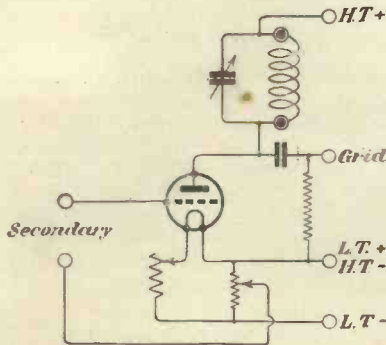
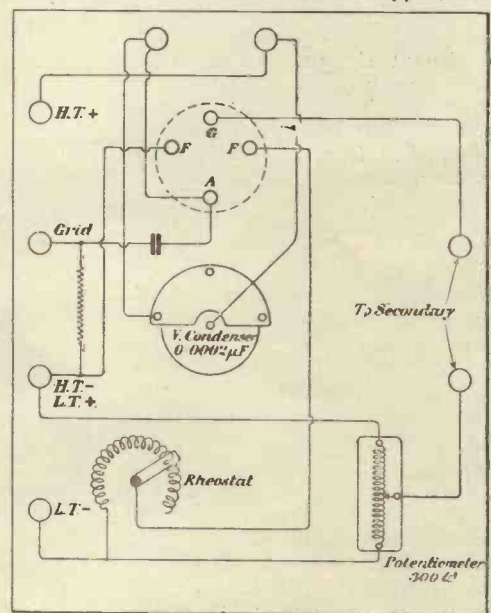
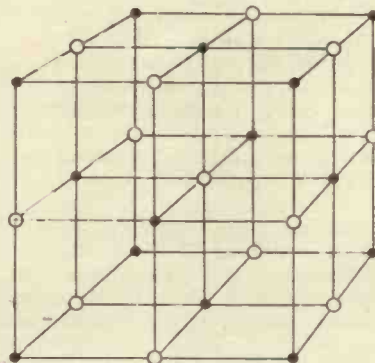

Fig. 3.—The circuit of the unit.
Fig. 4.—Showing back of panel.
Fig. 5.—The unit cube of a crystal of the "cubic" system (sodium chloride). The black dots represent sodium atoms and the circles chlorine atoms.
Fig. 3 shows the circuit, and Fig. 4 gives a wiring diagram of the panel. The panel is first laid out as shown in Fig. 5. A line running down the middle is ruled with the scribe (do not use a lead pencil which makes high-resistance leaks all over the ebonite); then two others 1/8 in. from each of the long sides. Once these guide lines have been made the rest of the process is easy. The positions of the holes
Fig. 3.—The passage of X-rays through humid gas. Electrons are ejected from the gas molecules and produce ionisation trails, which are rendered visible by the condensation of water-vapour upon the ions. (Reproduced from memoir by C. T. R. Wilson.)
when violent disturbances of the electron systems of atoms are produced by the collision of high-speed electrons, so these rays may act upon other atoms, ejecting electrons and disturbing the orbital motions of the inner rings. Thus when a substance is exposed to X-rays two different effects are generally produced: (1) some of the atoms are deprived of planetary electrons—that is to say, they are "ionised" (see Fig. 3); and (2) orbital changes take place, corresponding to those occurring in the atoms of the anti-cathode by which the rays were produced.
indicated in Fig. 4, known as the "X-ray spectrometer."
In certain crystals (called "cubic") the arrangement of the molecules is comparatively simple. In Fig. 5 is shown the arrangement of common salt (sodium chloride), the black dots representing the sodium atoms, and the circles the chlorine atoms. By simple calculations it is possible to discover very accurately the dimensions of the small cubes such as that shown in Fig. 5. These arrangements of atoms in crystals are known as "lattices." In 1914 Moseley investigated the characteristic X-ray frequencies of various substances by means of the crystal grating. It will be observed that the crystal is employed merely as a part of the appliance and re-radiates the same frequency as that which is incident upon it. Substances, however, which emit primary X-rays (for example, when used as the anti-cathode in an X-ray tube) will give rise to frequencies characteristic of their atomic structure.